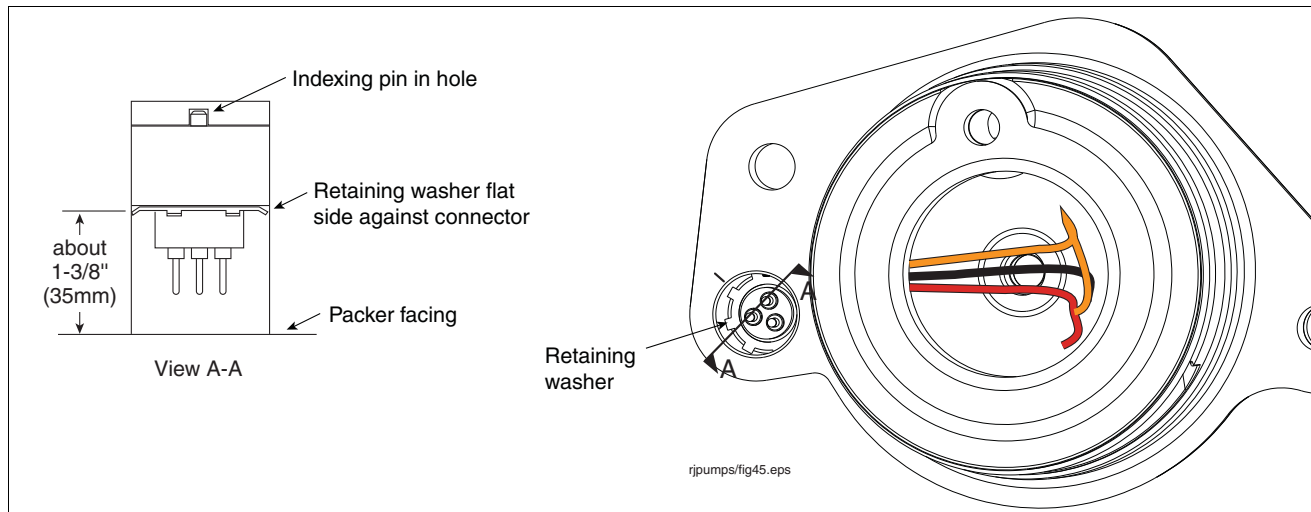

Figure 34. Correct depth of male connector in packer socket
13. Thread the wires of the new male connector down into the socket and out through the opening in the base of the socket into the packer wiring compartment. Gently pull the wires into the wiring compartment as you align the masking tape mark on the connector with the felt tip mark on the packer facing. When you have pushed the connector all the way into its socket it should not rotate if the indexing pin is in the index hole. Using the small ruler, measure the distance from the packer facing down to the connector, it should be a little more than 1-3/8" (see Figure 34). Hold the wires tight to keep the connector in position and insert the retaining washer (with upturned teeth facing out) forcing it down until it is firmly against the connector. Recheck the 1-3/8" measurement after installing the retaining washer to confirm that the connector is at the proper depth.